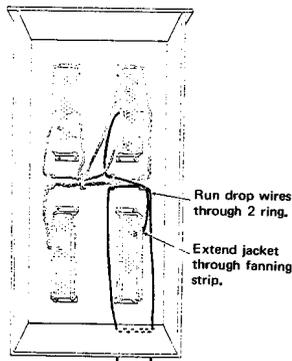

FIGURE 8. Cross-Connecting Wires
- 5.04 Run cross-connect wires through rings (see Figure 8) and provide slack by cutting the shortest conductor at the binding post of the pair furthest from the fanning strip.